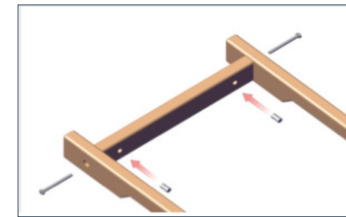
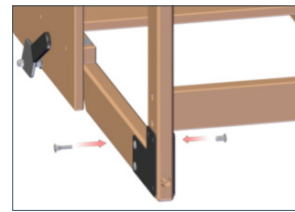

FIGURE 8
FIGURE 9
- Refer to Figure 8. Insert one Barrel Nut (I) into each hole located on the Cross Rail (E) with the slotted end facing the Upholstered Barrel Assembly. Using a Flathead Screwdriver, rotate the Barrel Nut until the slot is horizontal. Insert one 5/16" x 3-1/4" Hex Bolt with washer (J) through each rail from the outside until it engages the threads of the Barrel Nut. Thread the Hex Bolts into the Barrel Nuts, but do not fully tighten at this time.
STEP 3 – Assemble the Ladder (B) to the L-Brackets on Left and Right Rails (C, D) using 1-1/4" Binding Post Screws (male and female) (F, G).
- Orient the Ladder (B) so that the black, plastic hole plugs near the top are facing outward, away from the Upholstered Barrel Assembly.
- Refer to Figure 9. Carefully squeeze approximately one drop of Loctite into the female Binding Post Screw (G). Use caution with Loctite, it comes out of the tube quickly. Beginning at the left side of the Ladder, insert one 1-1/4" Binding Post Screw (female) (G) from the inside of the Ladder through the L-Bracket and Ladder. From the other side, insert one 1-1/4" Binding Post Screw (male) (F). Using the two 3/16" Allen (Hex) Wrenches included, thread the male and female Binding Post Screws together, but do not tighten. Repeat these steps for the remaining two holes in the L-Bracket on Left Rail (C).
- Move to the three holes in the L-Bracket on Right Rail (D) and repeat the process using the remaining three Binding Post Screws (F, G). Using the two 3/16" Allen (Hex) Wrenches, fully tighten the three sets of Binding Post Screws that attach the Ladder to the L-Brackets on each side.
STEP 4 - Tighten all Fasteners and Insert 3/4" Plastic Hole Plugs (K)
- Using a Socket Wrench with 1/2" Socket, firmly tighten both 5/16" x 3-1/4" Hex Bolts from Step 2. Insert one 3/4" Plastic Hole Plug (K) into each Rail.
- Using the two included 3/16" Allen (Hex) Wrenches, verify that all six (6) sets of Binding Post Screws (F, G) from Step 3 are firmly tightened.